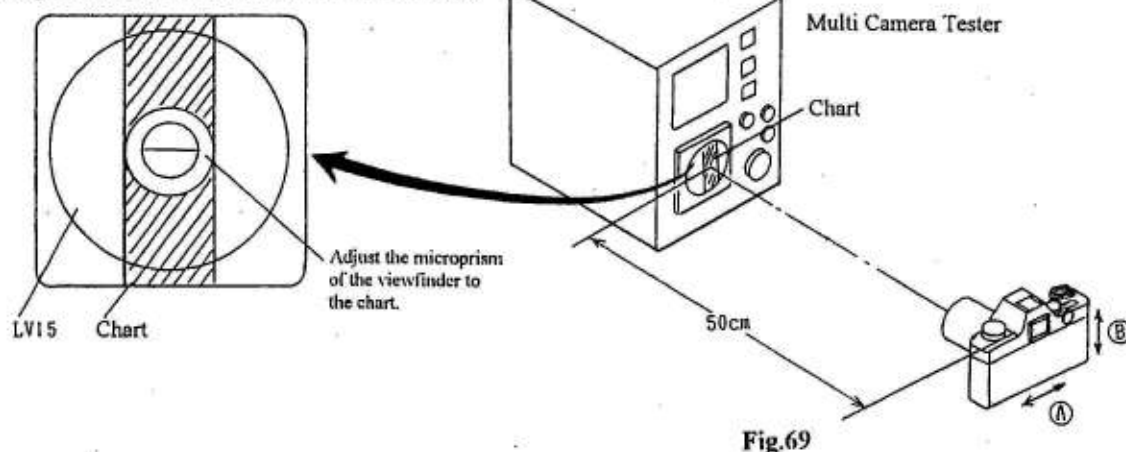

Fig.69
- 11) Look into the viewfinder and swing the camera gently right and left (in the direction of the arrow (A)). (See Fig. 69) Adjust by turning the Adjusting Pin (a) so that the shutter speed indicator shows the slowest speed at swinging.
- 16) Look into the viewfinder and swing the camera gently up and down (in the direction of the arrow (B)). (See Fig. 69) Adjust by turning the Adjusting Pin (b) so that the shutter speed indicator shows the slowest speed at swinging.